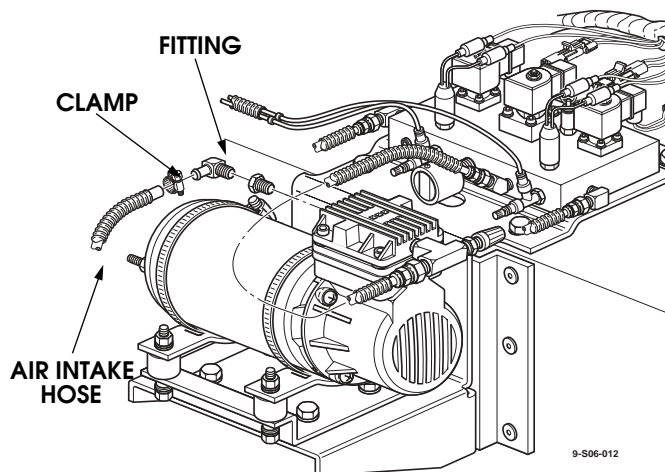

Figure 6-74: Air Intake Hose to Fitting
5. Loosen hose clamp securing air intake hose to compressor fitting (Figure 6-74).
1. Connect air intake hose to compressor fitting and secure with hose clamp (Figure 6-74).